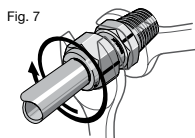

Fig. 7
3. While holding the fitting body steady, rotate the nut with a wrench to the previously pulled-up position as indicated by the marks on the tube and the flats; at this point you will feel a significant increase in resistance. *Fig. 7.*